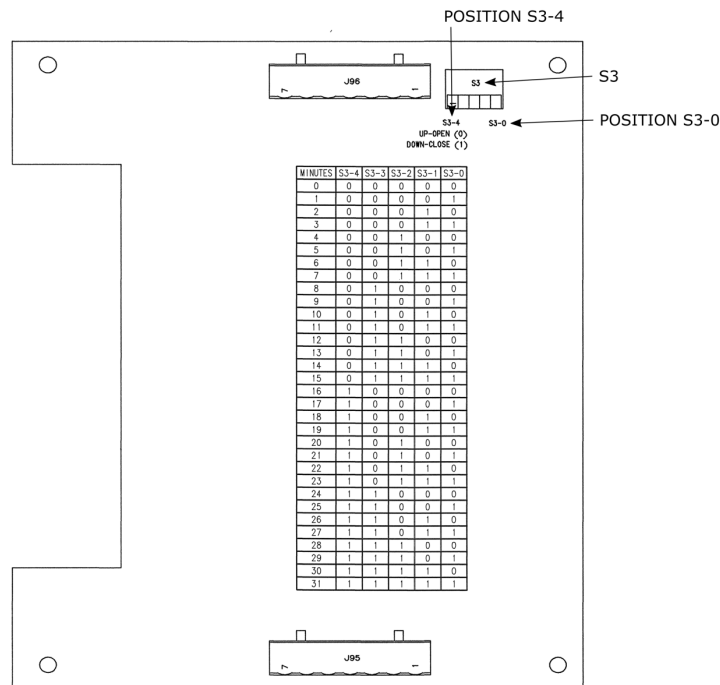

Figure 28 Transfer Module Assembly, A80468, S3 Switch Position
The transfer timer interval is selected by means of DIP switch S3 located on the back of the A80468 Transfer Module as shown in Figure 28.
- The switch levers of S3 are set to the positions designated in Table 33 to obtain the required delay time (see Figure 28).